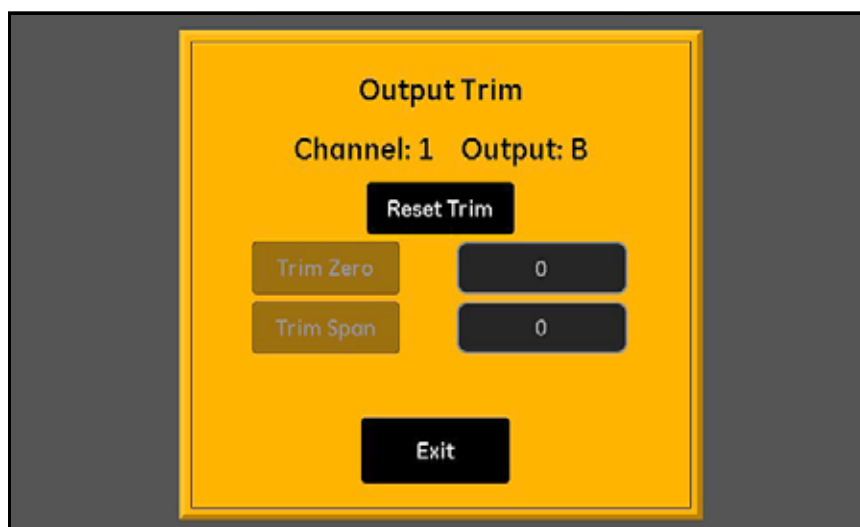

Figure 40: Output Trim Screen
3. Tap the Channel (1-6) and Output (A or B) to be trimmed, and then tap the Trim button to open a screen similar to *Figure 40* below.